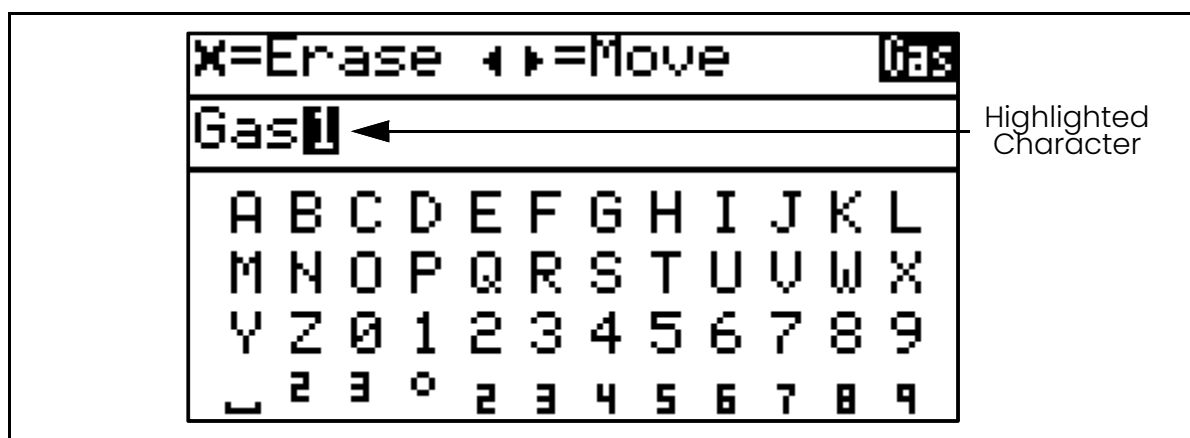

Figure 47: Text Edit
- Pressing the **Down** arrow will move the highlight to the **Text Edit** section (see *Figure 47* below):